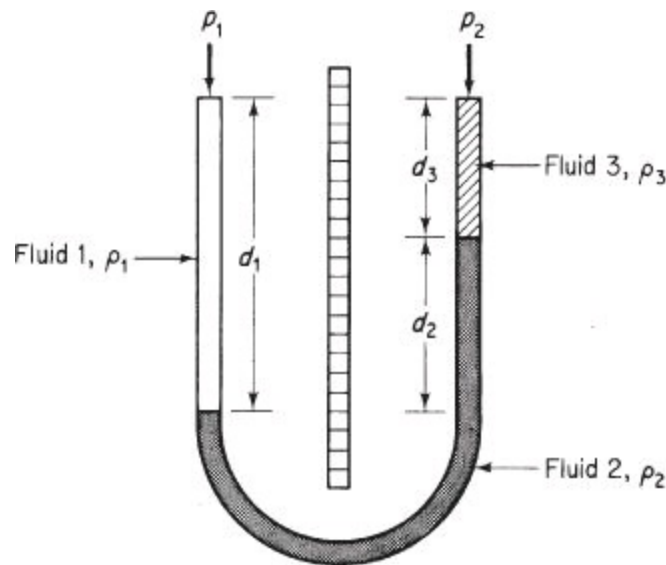

Figure 2.7. Manometer with three fluids
Have you noted in the discussion and examples so far that we have said we can ignore the gas in the manometer tube above the measurement fluid? Is this OK? Let's see. Examine Figure 2.7, which illustrates the section of a U-tube involving three fluids.
However, if fluids 1 and 3 are liquids and fluid 2 is a nonmiscible fluid, the density of fluids 1 and 3 cannot be neglected in Equation (2.11). As the densities of fluids 1 and 3 approach that of fluid 2, what happens to the value of fluid level 2 (d_2) in Figure 2.7 for a given pressure difference $p_1 - p_2$?
- h. Air flows in a pipeline, and the manometer containing Hg that is set up as illustrated in Figure 2.7 shows a differential pressure of 14.2 mm Hg. You can ignore the effect of the density of air on the height of the columns of mercury.